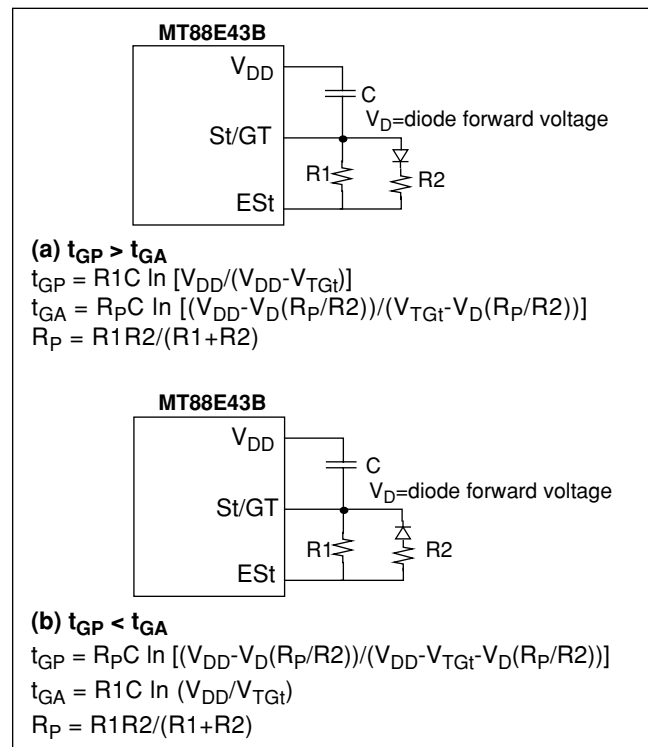
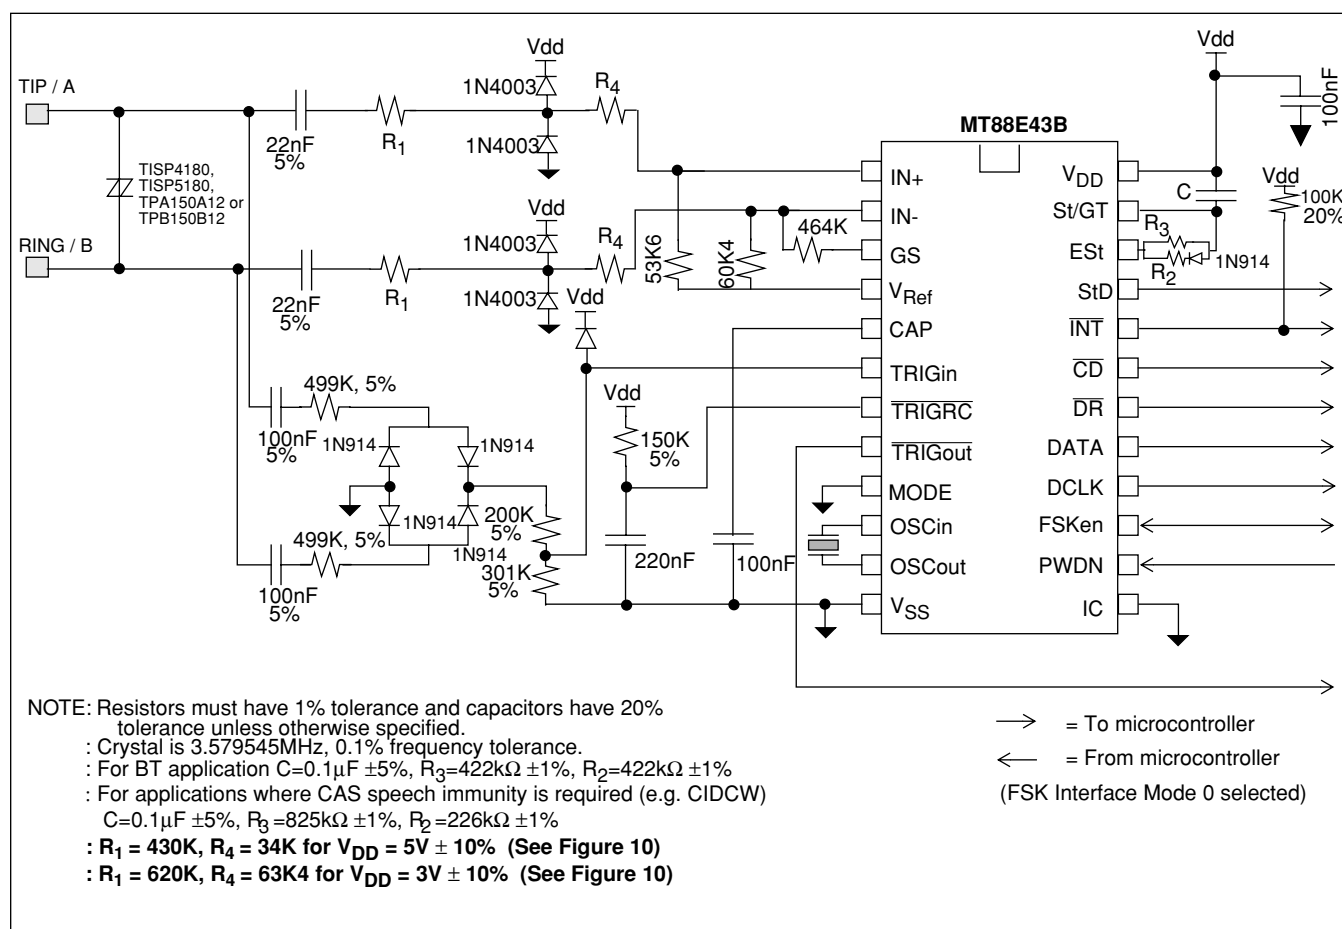
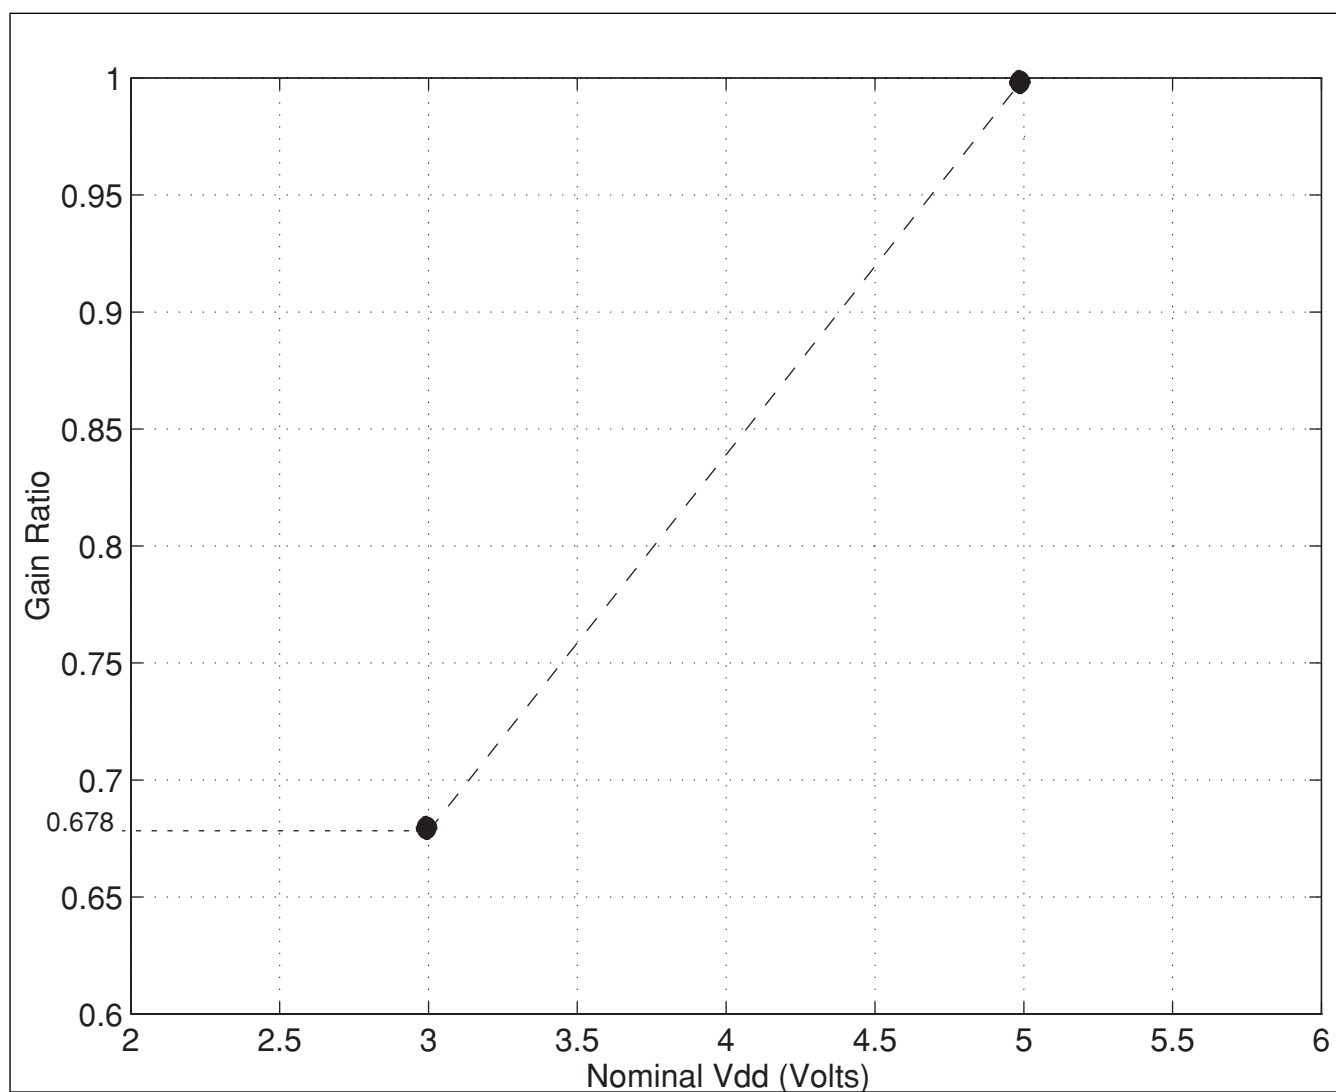

Figure 5 - Guard Time Circuits with Unequal Times
Figure 9 - Application Circuit
Figure 10: Gain Ratio as a function of Nominal Vdd
BT specifies that the idle state tone alert signal recognition time should not be less than 20ms when both tones are used for detection. That is, both tones must be detected together for at least 20ms before the signal can be declared valid. This requirement can be met by setting the t_{GP} (refer to Figure 5) to at least 20ms.
BT also specifies that the TE is required to apply a DC wetting pulse and an AC load 15-25ms after the end of the alerting signal. If $t_{ABS}=t_{DA}+t_{GA}$ is 15 to 25ms, the DC current wetting pulse and the AC load can both be applied at the falling edge of StD. The maximum t_{DA} is 8ms so t_{GA} should be 15-17ms. Therefore, t_{GP} must be greater than t_{GA} . Figure 5(a) shows a possible implementation. The values in Figures 9 and 11 ($R_2=R_3=422K$, $C=0.1\mu F$) will meet the BT timing requirements.
The circuits shown in Figures 9 and 11 are application circuits for the MT88E43B. As supply voltage (V_{DD}) is decreased, the threshold of the device's tone and FSK detectors will be reduced. Therefore, to meet the BT or Bellcore tone reject level requirements the gain of the input opamp should be reduced according to the graph in Figure 10. For example when V_{DD}=5V (+/- 10%), R₁ should equal 430kΩ and R₄ should equal 34kΩ; and if V_{DD}=3V (+/- 10%) R₁ should equal 620kΩ and R₄ should equal 63.4kΩ. Resistors R₁ and R₄ are shown in Figures 9 and 11.
The circuit shown in Figure 9 illustrates the use of the MT88E43B in a proprietary system that doesn't need to meet FCC, DOC, and UL approvals. It should be noted that if glitches on the Tip/Ring interface are of sufficient amplitude, the circuit will falsely detect these signals as ringing or line reversal.
Note: In the application circuits shown in Figures 9 and 11, the Gain Ratio of MT88E43B opamp is
3. Tip/Ring signal level. Input opamp configured to 0dB gain at $V_{DD}=5V \pm 10\%$, -3.38dB gain at $V_{DD}=3V \pm 10\%$. (see Figure 10)